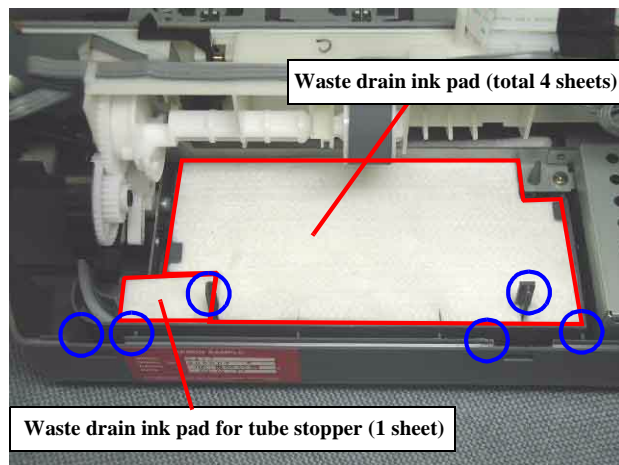

Figure 4-45. Waste drain ink pad setting position
- When disassembling/assembling the Waste drain ink pad, be careful not to hurt your hand with the protrusion of the Lower housing. (Refer to Figure 4-45: Blue circle)